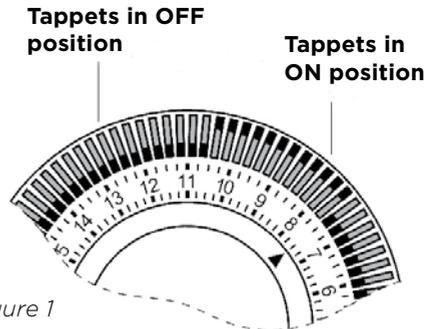

Figure 1
I.E. to set ON at 7.30 a.m. and OFF at 10.30 a.m. move all tappets between 7.30 and 10.30 to outer position (see fig. 1).